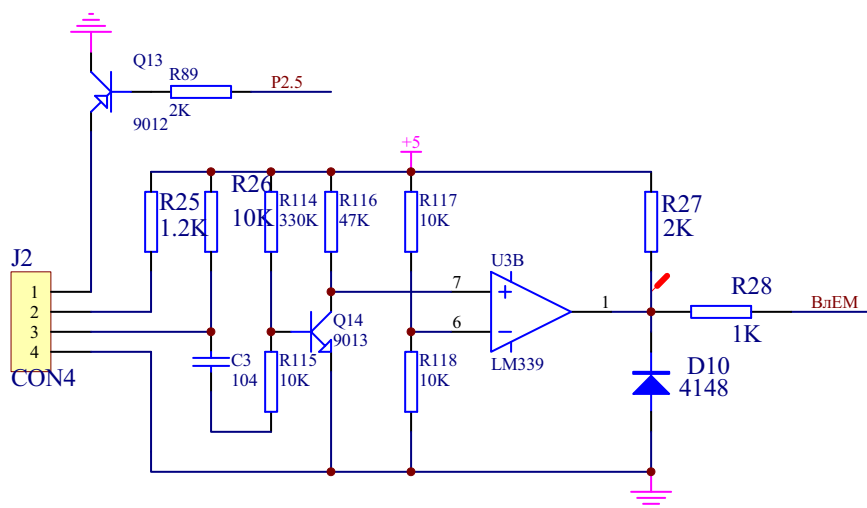

Fig.18B The circuit diagram of width sensor
(2) NEW PRO85, PRO85U (Fig.18B)